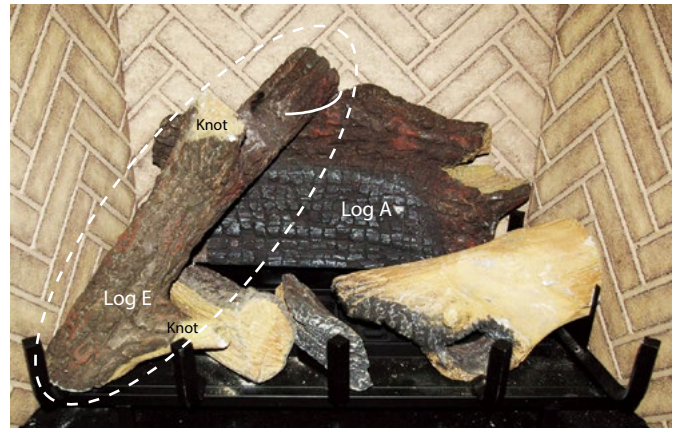

Figure 18k. Installation of Log 'E'.
**Step 9.** Position Front Right Log 'F', with the Knots pointing in the directions shown, **Figure, 18l.** Place the **Lighter, narrow end** on top of Log 'E' as shown, (**arc'd line**). Align for length and location, **Figure 18k.**